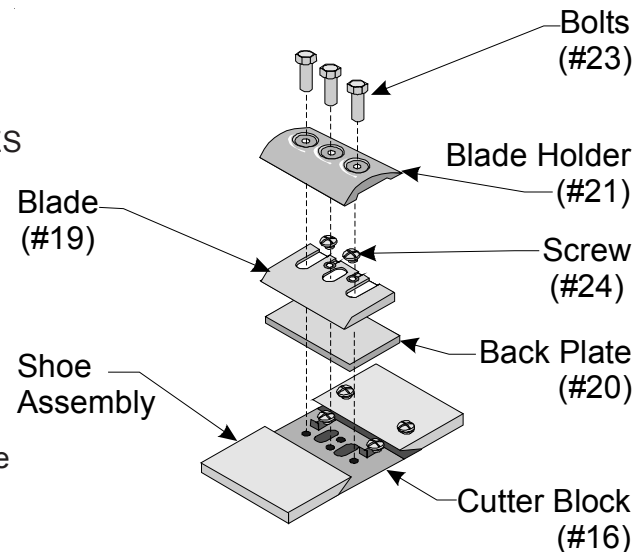

Figure 3 — Removing the Blades
Step 1: Remove the three BOLTS (#23) on the cutterhead assembly. (See Figure 3.)